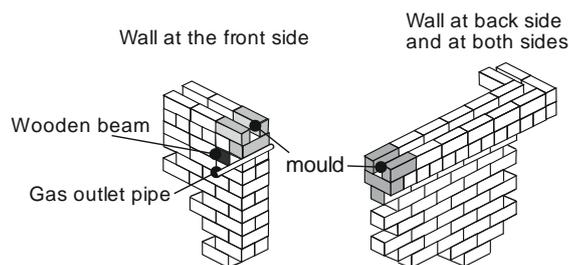

Fig. 4: Step 13 – 16: How to form the mould and to fix the gas outlet
15. Brick a brick row around the reactor (200 Stones). The bricks have to be laid crossways to the wall below (see Fig. 4).
16. Brick 2 brick rows (180 stones) each standing vertically on the long side around the reactor wall, so that a mould is formed between the bricks (see Fig. 4). Now the reactor walls reach abt. 50 cm above soil, the walls around feed and discharge basin 20 cm above soil.